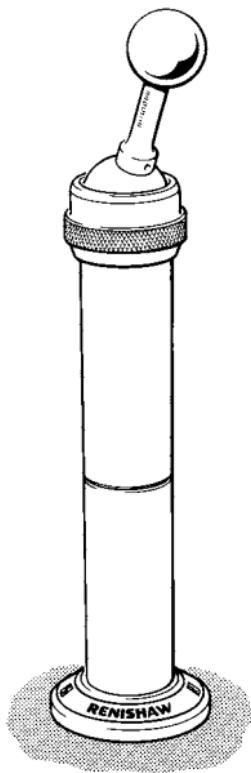

Figure 9 - Universal datum sphere
8.3 Universal datum sphere (see figure 9)